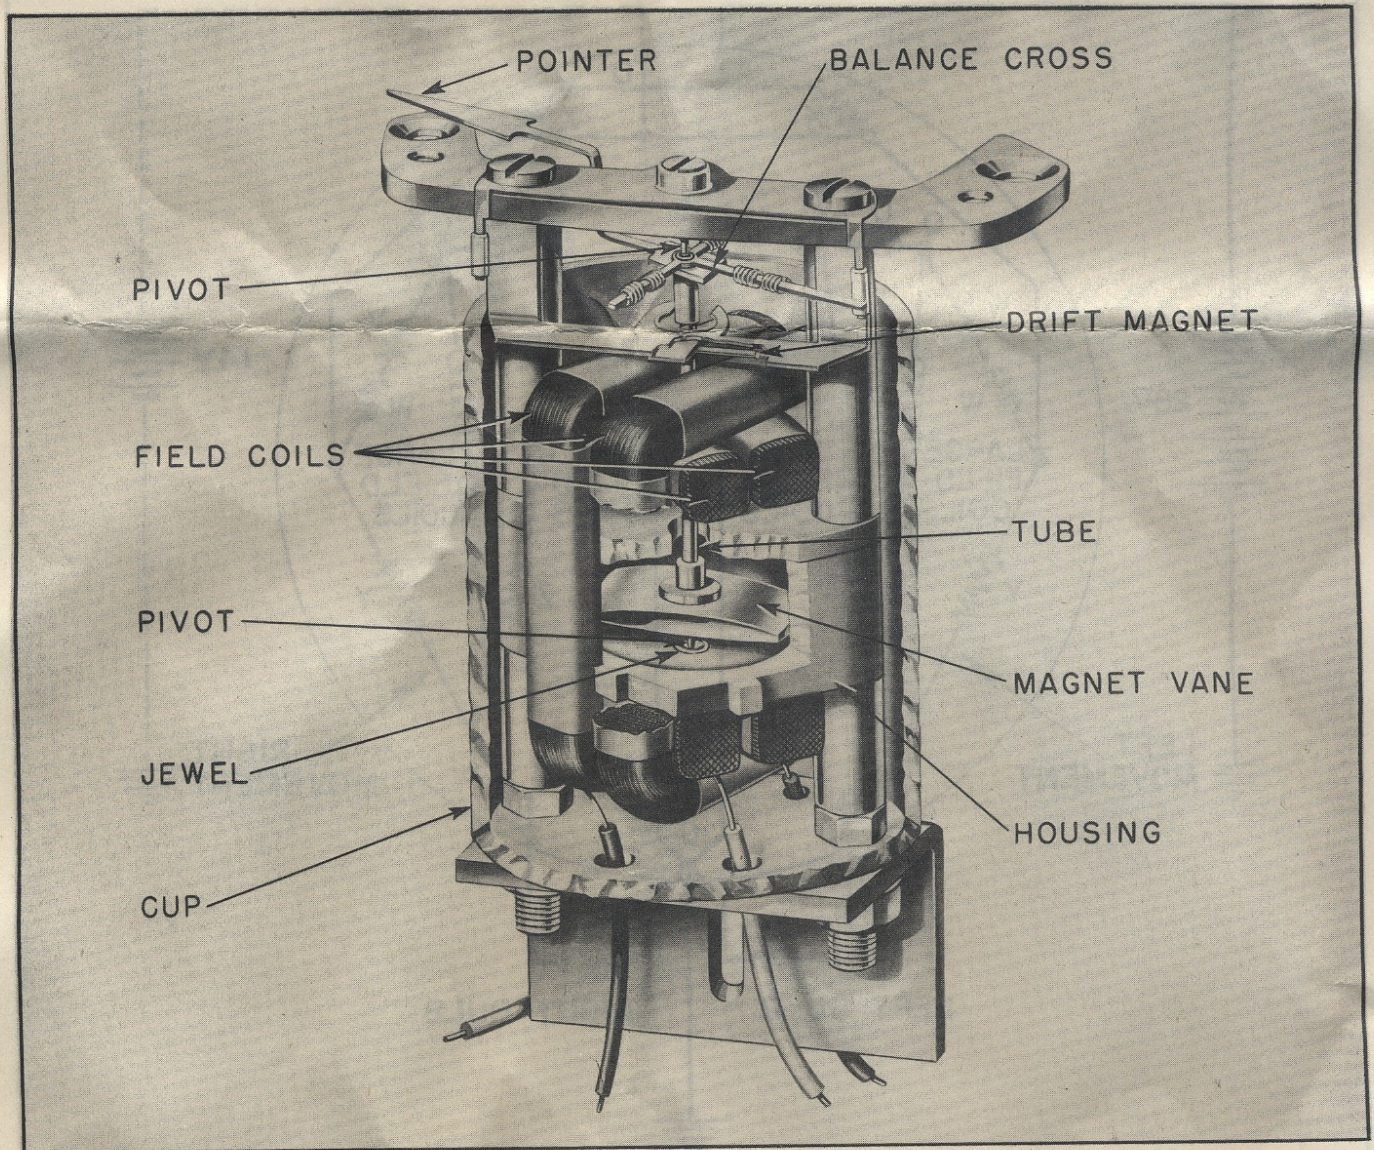

Figure 4—Cut-away View of Ratio Galvanometer Movement
a. The galvanometer movement consists of a permanent magnet pivoted within two pairs of stationary field coils. (See figure 4.) These coils are so placed that the lines of force through the small coils tend to turn the magnet with its attached pointer in the direction of the right or high end of the scale, while those of the large coils tend to rotate it to the left or low end. These field